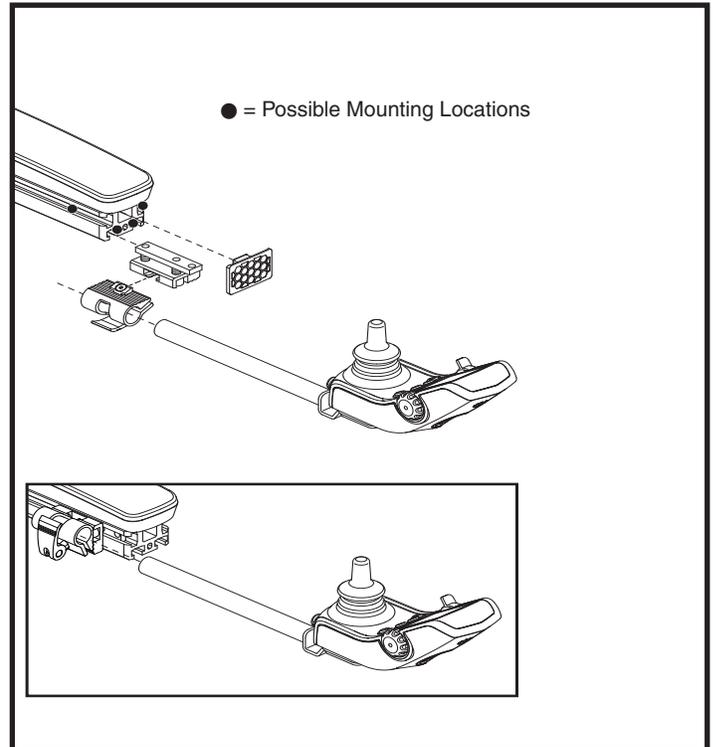

Figure 18. Controller Position (Standard Mounting Block Shown)
3. Loosen the mounting screws in the controller mounting block. **See figure 18.**